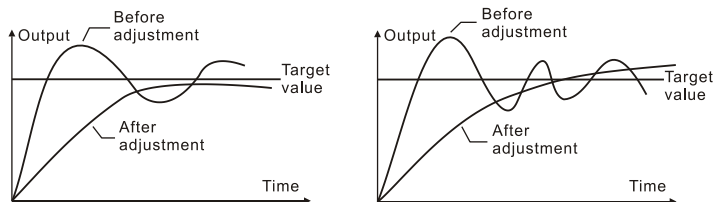

Figure 6-19 Suppress Output Exceeding of PID Control	Figure 6-20 Suppress Output Oscillation of PID Control
- 6) Refer to the descriptions in Figure 6-19/6-20 for specific application.